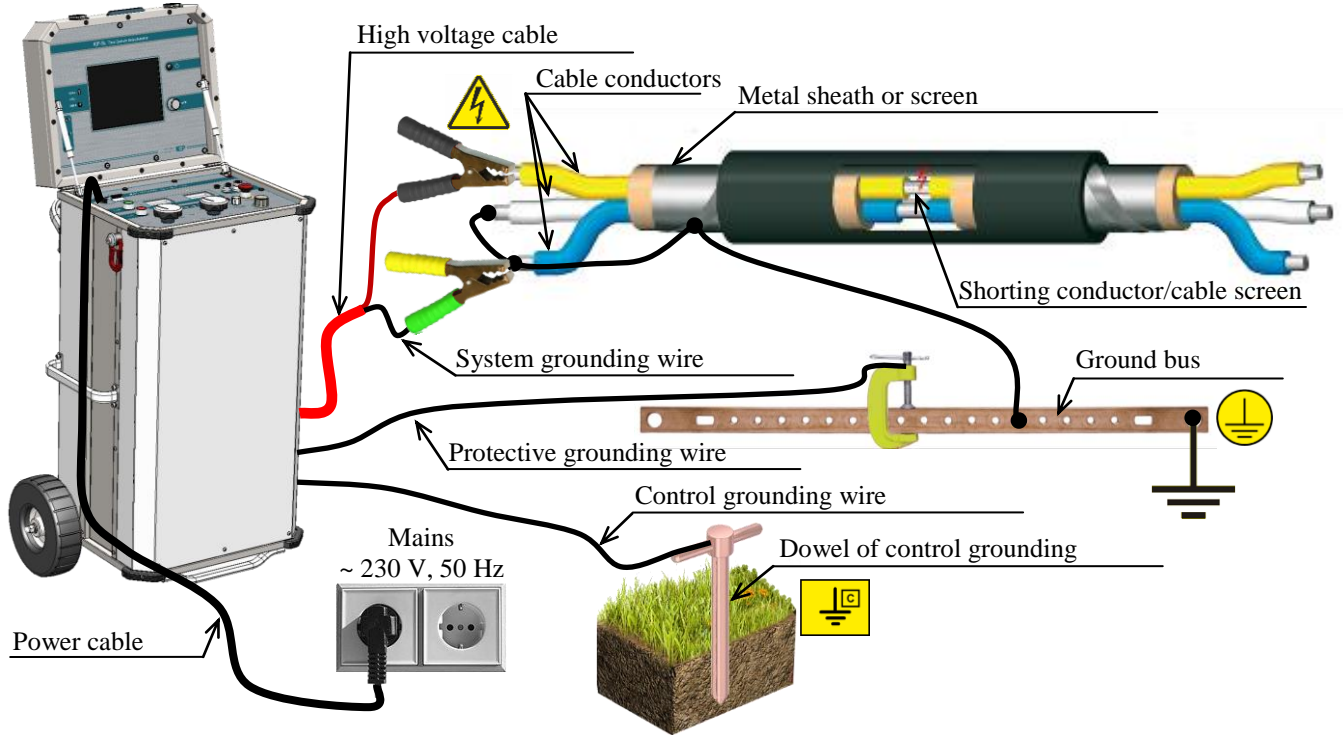

Figure 3 – Single-phase connection of cable under test to System
- 3.1.5 Connect the System to a cable with faulty insulation according to the selected connection diagram (see figures 3 – 5).